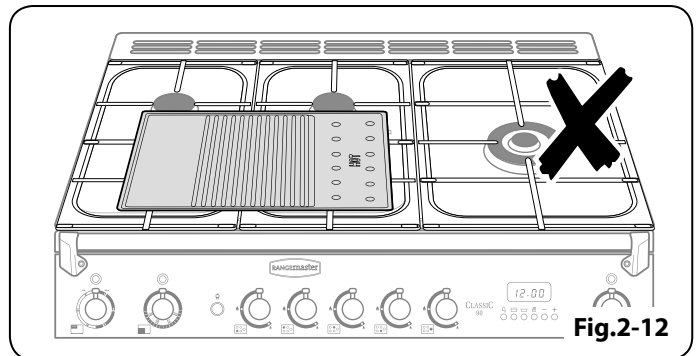

Fig.2-12
- ⚠ **DO NOT put it on any other burner – it is not designed to fit in any of the other pan supports (**Fig.2-12**).**